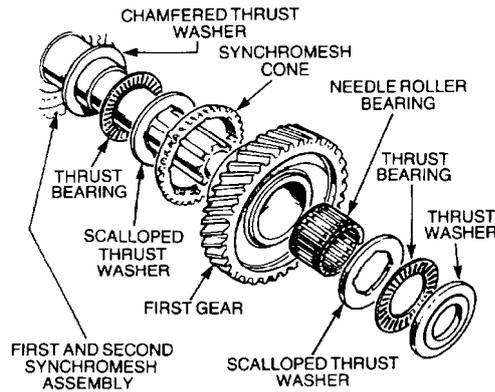

Figure 170 Installing the First Gear
- u. Install a synchromesh cone along the rear end of the mainshaft and engage the cone teeth in the first and second synchromesh sliding clutch (Figure 170).
- v. Position a chamfered thrust washer, a thrust bearing and a scalloped thrust washer onto the mainshaft. Install the first gear and a new needle roller bearing ensuring that the gear synchronesh teeth are fitted towards the synchronesh assembly (Figure 170).
- w. Install a scalloped thrust washer and a thrust bearing onto the mainshaft. Coat a stepped thrust washer with petroleum jelly to keep it in position during assembly and install it on the mainshaft with the stepped face outwards (Figure 170).